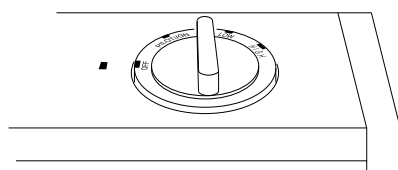

Figure 16 - Control Knob In The OFF Position
5. Press in and turn control knob counterclockwise to PILOT/IGN position. Press in control knob for five (5) seconds (see Figure 16).